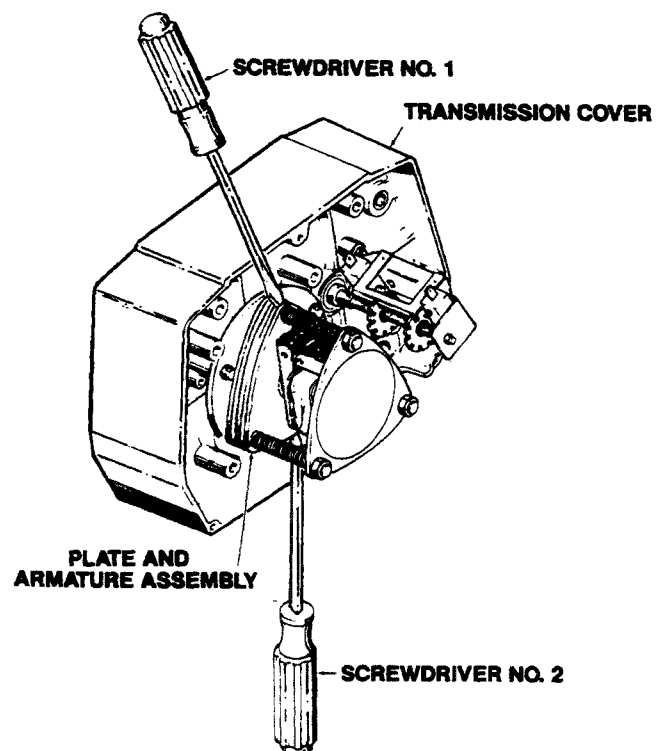

FIGURE 4-3. LOAD BRAKE FUNCTION CHECK LIST
- c. Referring to Figure 4-3 and Figure 8-9, place screwdrivers No. 1 and No. 2 behind the plate and armature assembly and prepare to pry against the transmission cover.